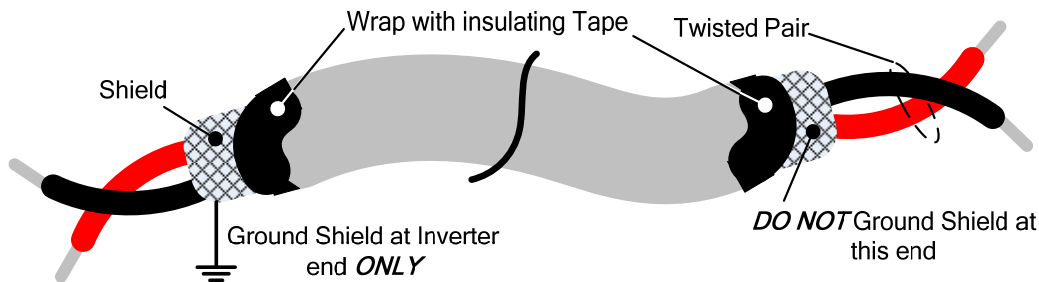

Figure 3.3.7.1 Shielded Twisted-Pair
- (1) Separate the wiring for control circuit terminals from main circuit wiring for terminals (R/L1, S/L2, T/L3, U/T1, V/T2, and W/T3).
- (2) Separate the wiring for control circuit terminals (R1A, R1B, R1C / R2A, R2C /R3A, R3C) from wiring for terminals S1 ~S6, A01, A02, GND, +10V-, AI1, AI2, and GND wiring.
- (3) Use shielded twisted-pair cables (#24 - #14 AWG / 0.5 -2 mm²) shown in Fig. 3.3.7.1 for control circuits to minimize noise problems. The maximum wiring distance should not exceed 50m (165 ft).